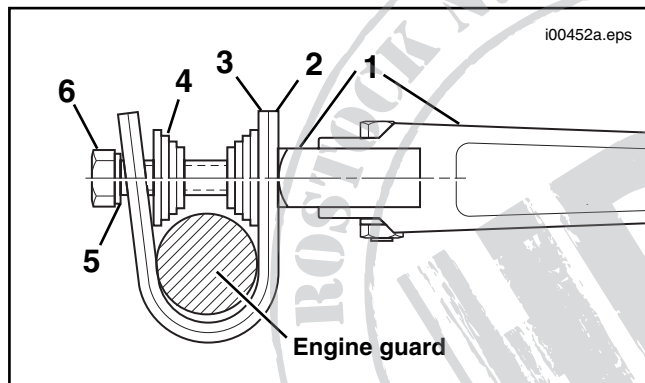

Figure 1. Footpeg Installation
1. See Figure 1. Remove the bolt (6) and lockwasher (5) from the footpeg assembly (1).